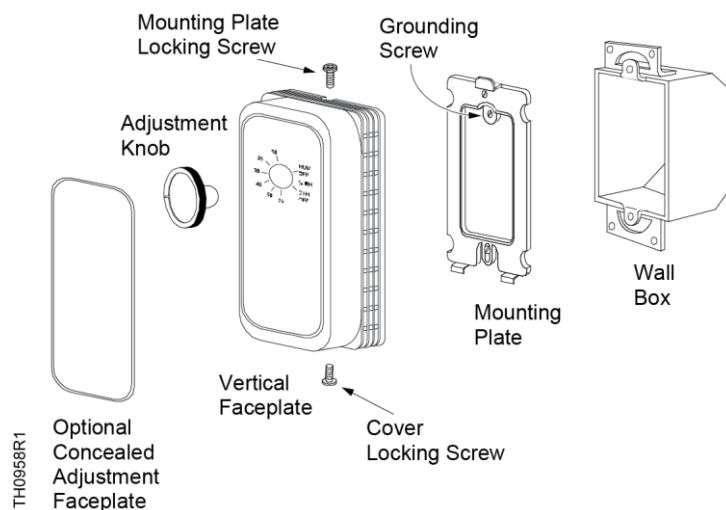

Figure 1. 134-1861 Humidistat.
3. Remove the humidistat mounting plate by loosening the mounting plate locking screw (see Figure 1) and lifting and removing the plate from the base.